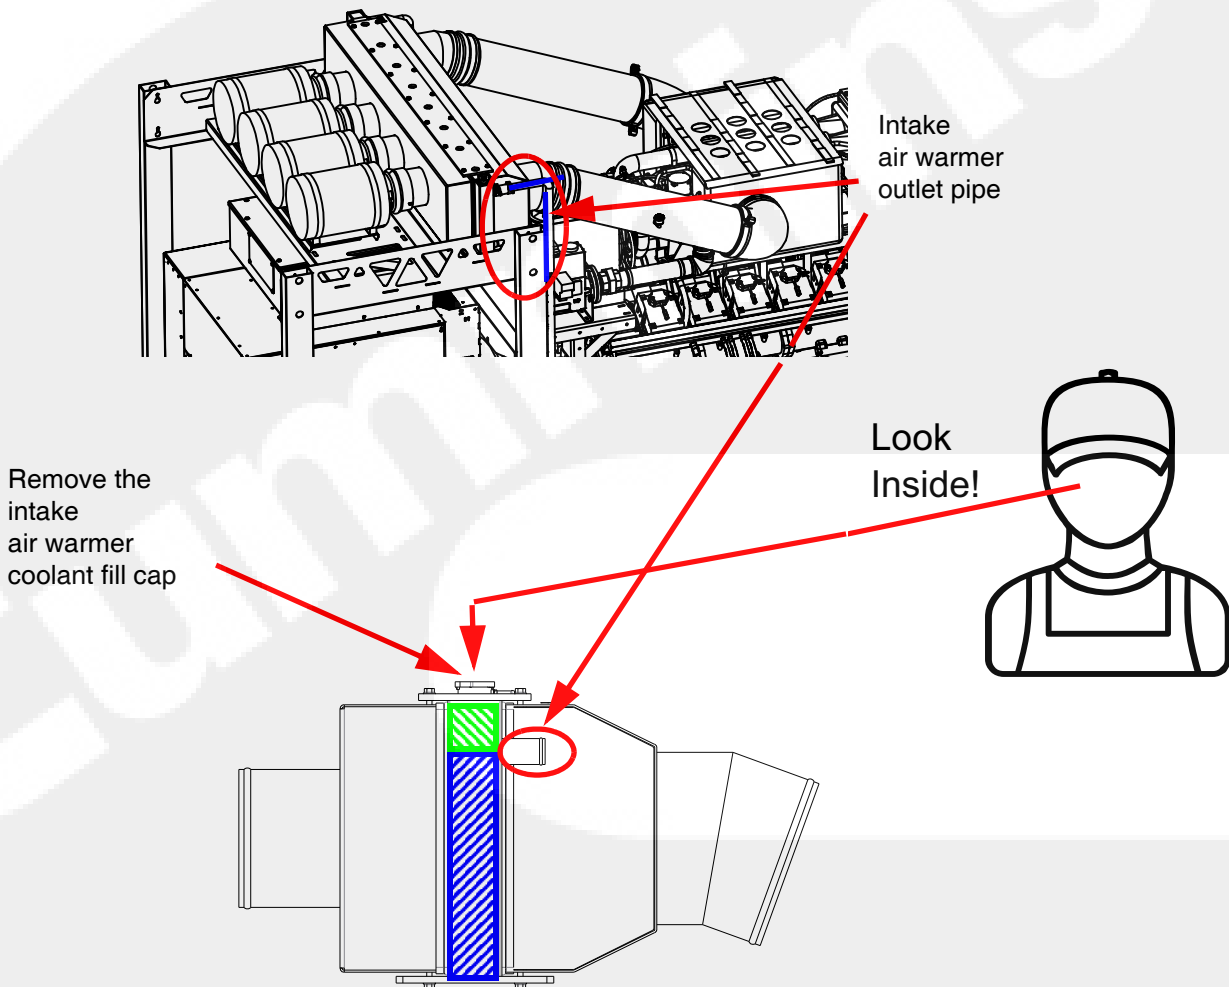

Figure 5-11 Cross-section diagram of the intake air warmer coolant fill port (GenSet right side)
3. As shown in Figure 5-11, visibly check that the coolant level is at - or just below - the intake air warmer outlet pipe. If the coolant is not visible to the intake air warmer outlet pipe, add coolant. The green section in the figure below indicates the ideal coolant level. It is acceptable to leave some air space in the intake air warmer.
6. To select the proper coolant, see 9.6 C1000N6B/C1300N6 coolant specification. As shown in Figure 5-11 (above), slowly add engine coolant and watch for when the coolant level begins to cover the intake air warmer outlet pipe. It is acceptable to leave some air space in the intake air warmer.